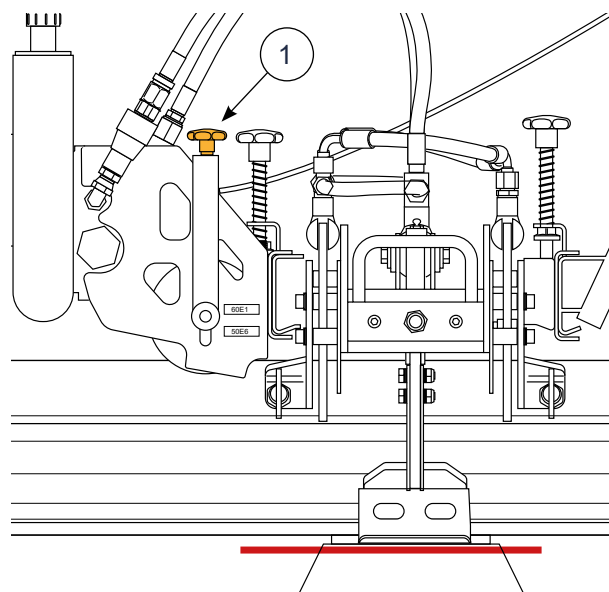
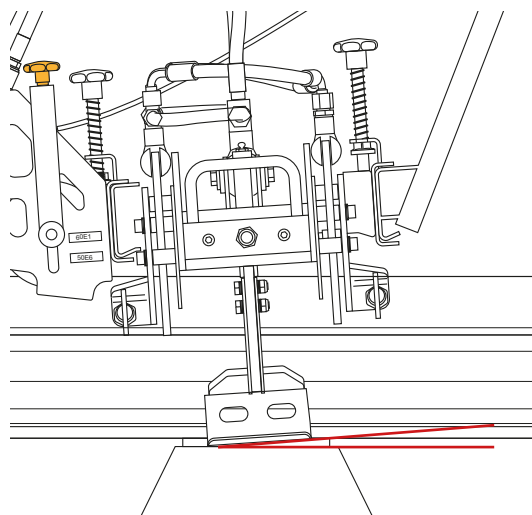
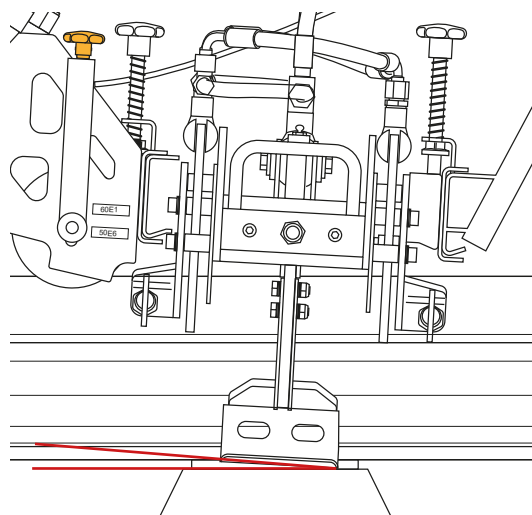

Fig 34. Correct adjustment
Fig 35. Too low
Fig 36. Too high
Turn the knob (1), Fig 34 to adjust to correct height.
When correctly adjusted, the work head is in horizontal position according to Fig 34
If the workhead is too low (Fig 35), turn the adjustment knob (1), Fig 34 clockwise, to lift it to horizontal position according to "Fig 34. Correct adjustment".
If the workhead is too high (Fig 36), turn the adjustment knob (1), Fig 34 anti-clockwise, to lower it to horizontal position according to "Fig 34. Correct adjustment".